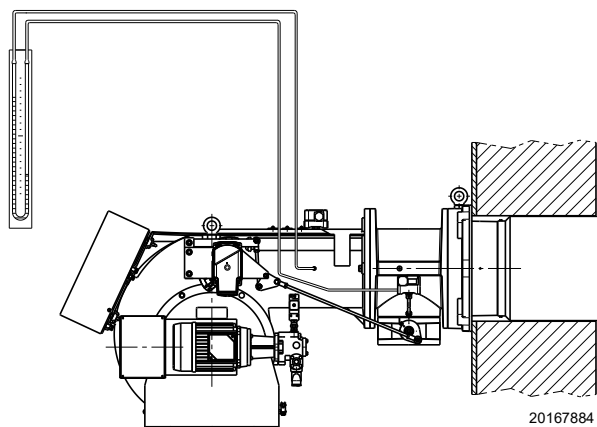

Fig. 28
- Fit a U-type pressure gauge or a differential pressure gauge (Fig. 28), with socket (+) on the gas pressure of the pipe coupling and (-) in the combustion chamber. Used to approximately calculate the MAX burner output.
The arrival of gas to the sleeve is indicated by the U-type pressure gauge (Fig. 28).